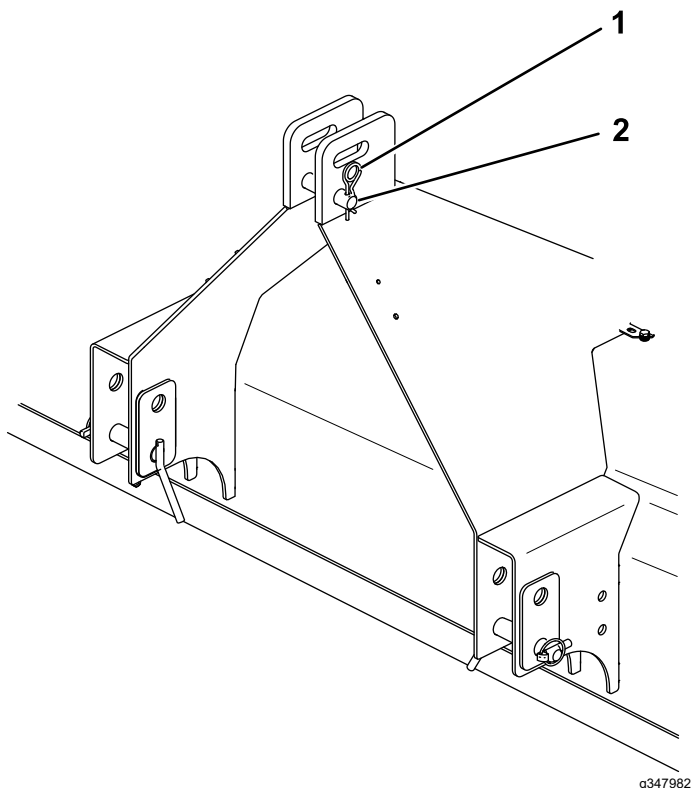

Figure 8
2. Remove the hairpin cotters from the hitch pins (Figure 8).